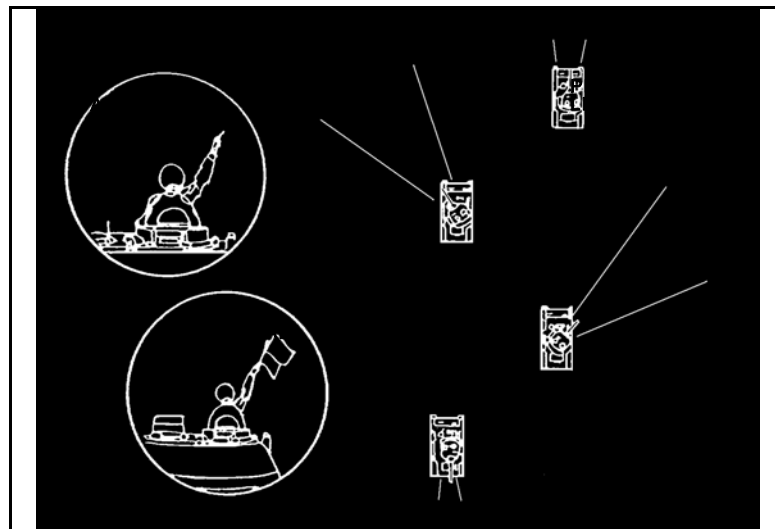

Figure 1. Column formation.
a. Select the column formation for road marches, for movement during limited visibility, and when passing through defiles or thick woods (Figure 1).